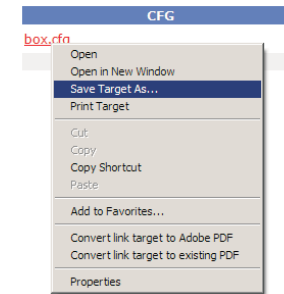

Figure 5-14 — Selecting Save Target As... to save the configuration file to the computer
4. Right click on the `box.cfg` file name, and select **Save Target As...** from the pop-up menu (figure 5-14).